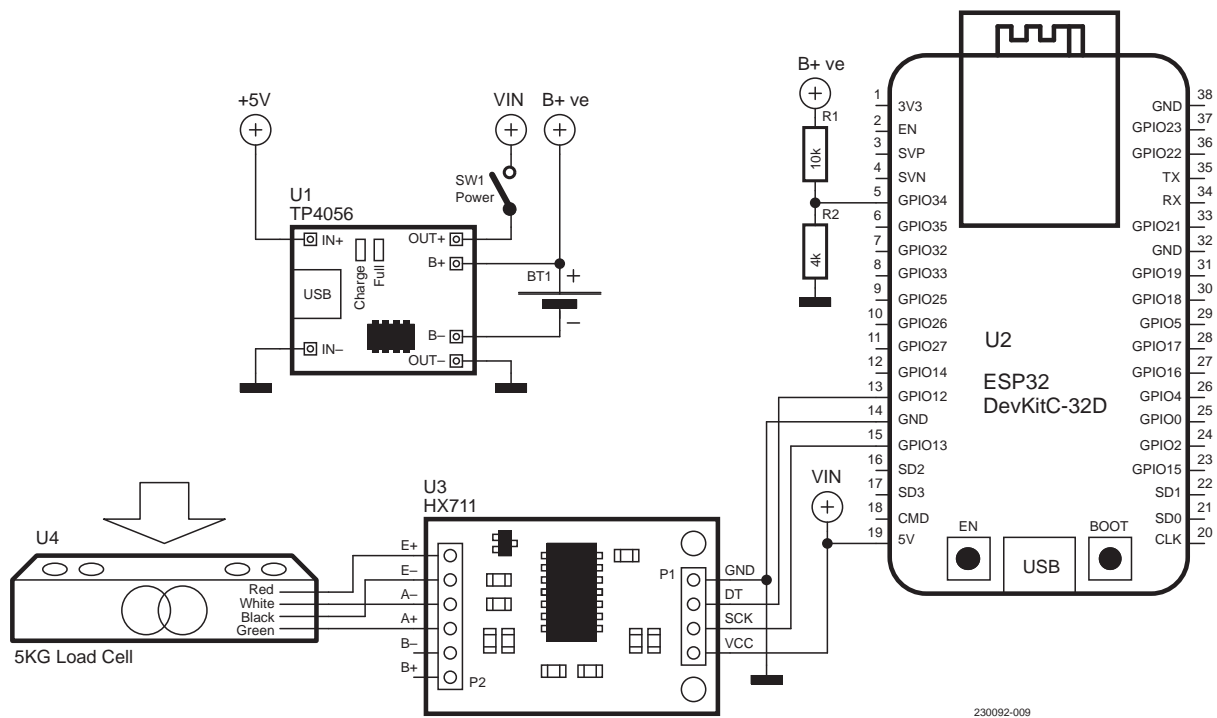

Figure 2: Circuit diagram of the system.
**Figure 2** shows the complete circuit of the system. The load cell comes with four colored wires: red, black, white, and green. These wires are connected to corresponding pins on the HX711 amplifier module: Red and black go to the HX711's E+ and E- pins, while white and green go to A- and A+, respectively. The HX711's GND and VCC are connected to 5 V and GND on the ESP32 module, while the DT and SCK pins go to GPIO 12 and GPIO 13, respectively. Resistors R1 and R2 function as a voltage divider for measuring battery voltage, which is connected to GPIO 34, the ESP32's analog-to-digital converter (ADC). The TP4056 charging module is used for USB Type-B charging. See the **Component List** text box for more.